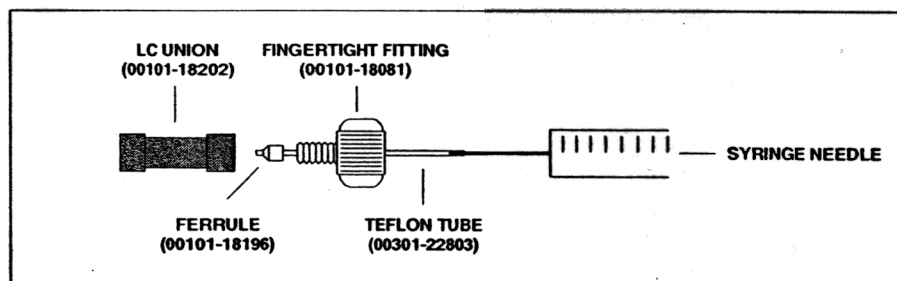

Figure 2-6. Plumbing connections for the syringe
1. Connect a 4 cm (1.5 in.) segment of Teflon tube (00301-22803) with a (brown) Fingertight fitting and a (brown) ferrule to the (black) LC union. See Figure 2-6